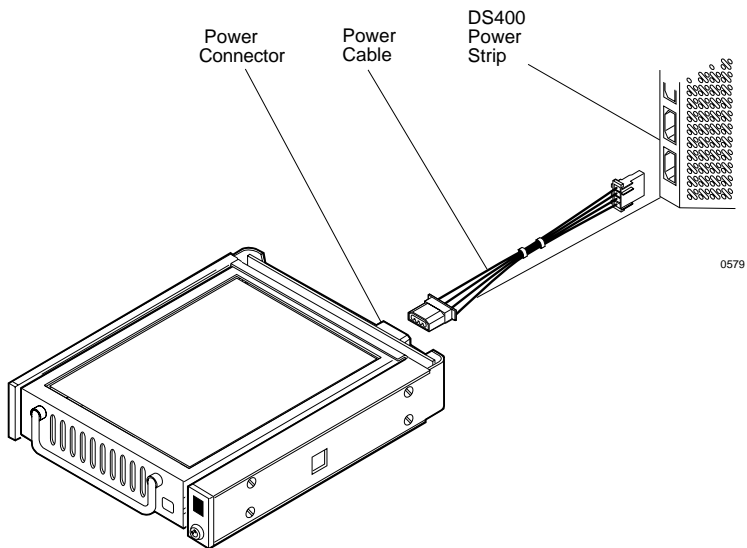

Figure 7: Connecting the DC Power Cable to the Drive
6. Connect the 4-pin DC power cable(s) to the power connector(s), located on the rear of the device(s) (Figure 7).